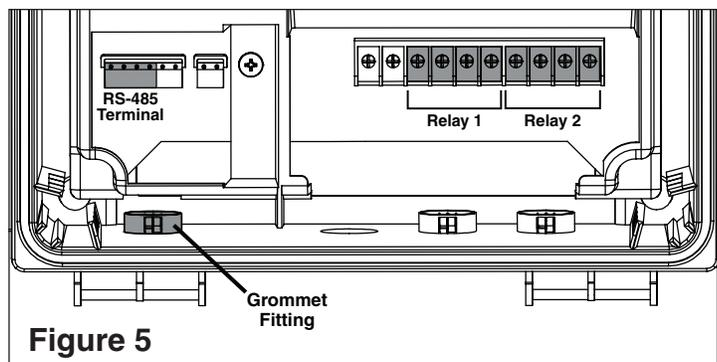

Figure 5
A single speed pump will be wired to either Relay 1 or Relay 2 on the high voltage side of the enclosure (see **Figure 5**). Relay output is rated at 120-volt, 16-amp maximum and 240-volt, 15-amp maximum. Check the electrical rating marked on the pump motor before connecting it to the system.
Each IntelliFlo® Variable Speed Pump is shipped with a 50 ft. (15.2 m) low voltage, RS-485 communication cable. The IntelliFlo pump will be wired to two of the four left-most pins in the low voltage terminal (see **Figure 5**) using this cable.
3. Insert the cable conductors into the left-most grommet fitting (**Figure 5**) in the bottom of the enclosure and pull the cable into the low voltage wiring compartment.
5. Insert the conductors into the RS-485 terminal block (see **Figure 5**) and secure the individual wires in their corresponding slots.
A device component wired to Relay 1 or Relay 2 (see **Figure 5**), and designated as either "Flow Dependent Device" or "Booster Pump" in the Link₂O app, will not energize until the filter pump has run for 2 minutes and allowed the system time to prime.
A booster pump will be wired to one of the two Relay terminals on the high voltage side of the enclosure (see **Figure 5**). Relay output is rated at 120-volts, 16-amp maximum and 240-volts, 15-amp maximum. Check the electrical rating marked on the pump motor before connecting it to the system.
A salt chlorine generator will be wired to one side of the RS-485 terminal on the low voltage side of the enclosure (see **Figure 5**).
A pool light will be wired to Relay 1 or Relay 2 on the high voltage side of the enclosure (see **Figure 5**, on previous page). Relay output is rated at 120-volts, 16-amp maximum and 240-volts, 15-amp maximum. Check the electrical rating marked on the light housing before connecting it to the system.